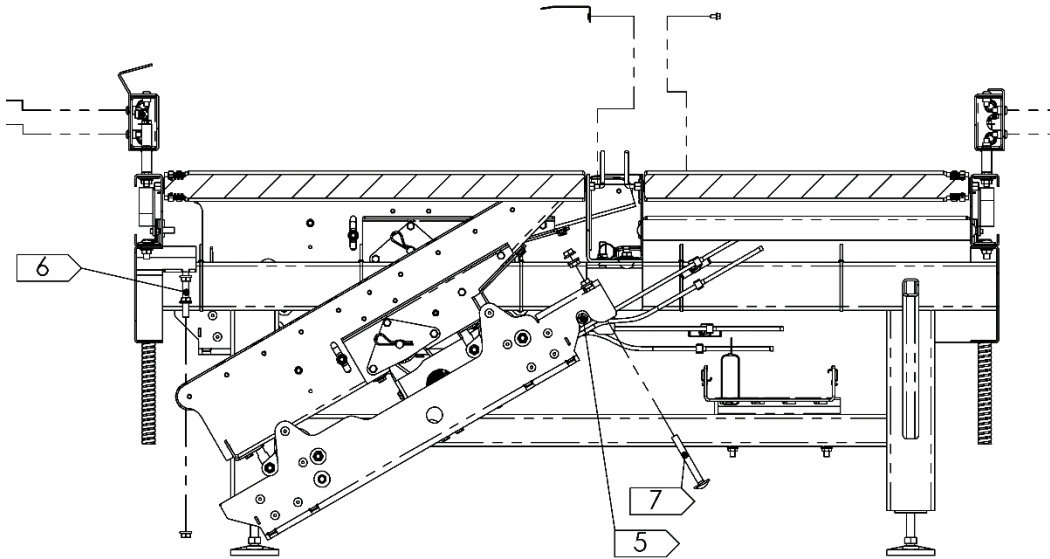
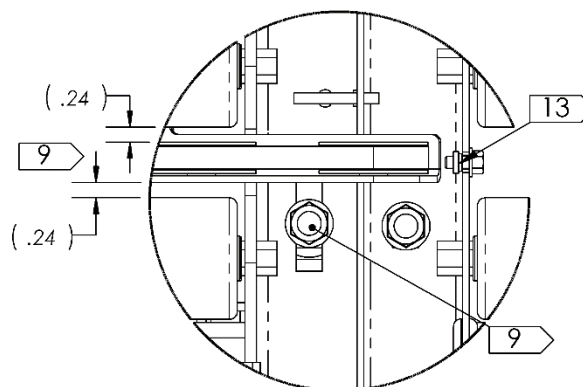
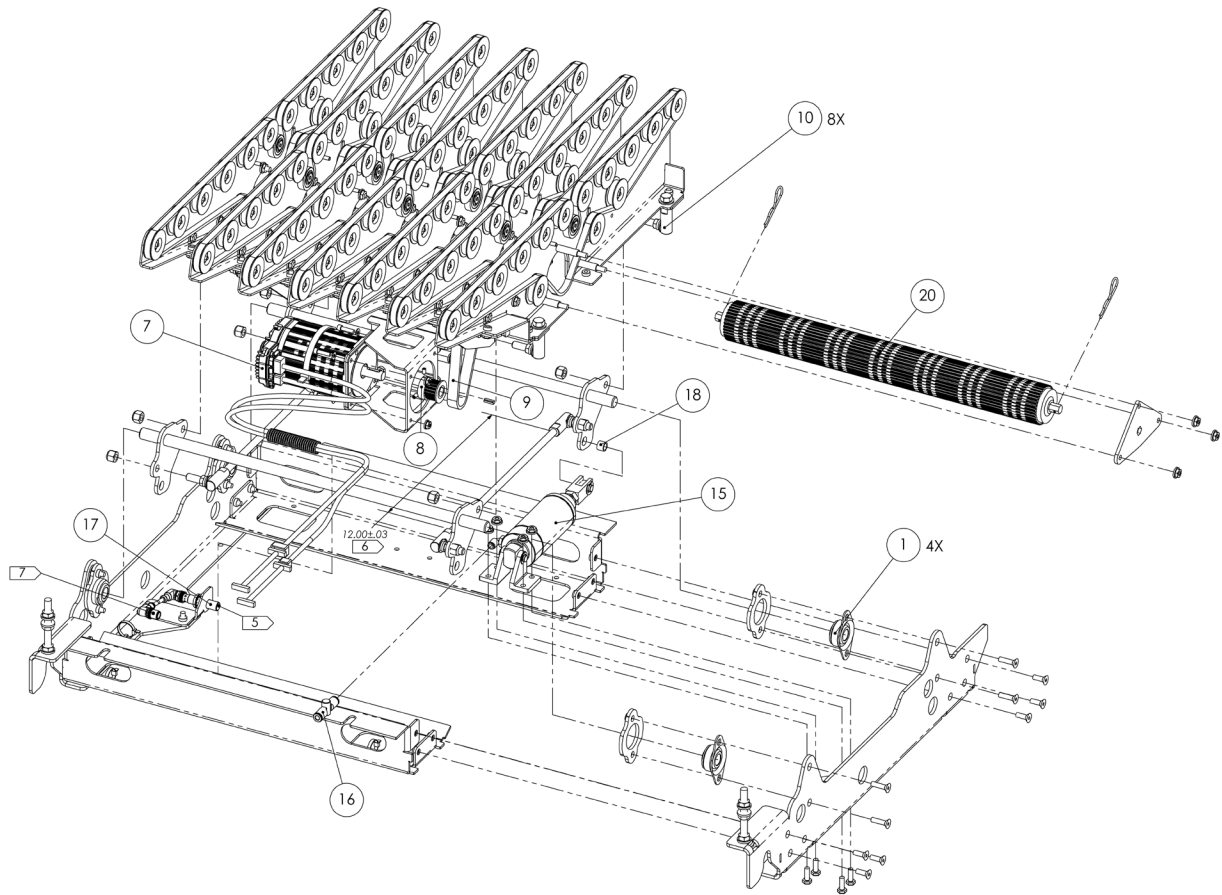

Figure 10-Removal of Pop-Up Transfer from GTPW Frame
Figure 12-Centering an Installed Pop-Up Transfer
Figure 13-Exploded View of Pop-Up Transfer
2. Disconnect cables and air lines from the pop-up transfer. There are (4) connections per pop-up: a 48V power cable (2x2 Molex Mini-Fit), an I/O cable (2x4 Molex Mini-Fit), a prox sensor cable (M12), and an air line (1/4" push fitting). All (4) connections are made in the cable tray directly opposite the pop up.
- a. The pins are indicated by flag note  in Figure 10.
5. Remove the (2) long carriage bolts holding the inboard side of the pop-up transfer in place. Access to these bolts is from the top of the conveying surface, underneath the center finger guard. As the bolts are loosened, the pop-up will drop onto the pivot pins.
- a. These carriage bolts are indicated by flag note  in Figure 10.
- b. Access to these bolts is also indicated by flag note  in Figure 12. Figure 10 is a top-down detail view; see Figure 23 in Appendix 1 for the full context of the detail view.
7. Remove the underside nuts on the (2) long square head bolts holding the outboard side of the pop-up in place. They are accessed from underneath the GTPW.
- a. These square head bolts are indicated by flag note  in Figure 10.
2. See Figure 13 for an exploded view of the pop-up unit. The motor is indicated by balloon (7). Also see Figure 19 through Figure 21 in Appendix 1 for general arrangement drawings.
4. Loosen the (4) 1/4"-20 bolts holding the motor mount to the transfer frame, and slide the motor up to relax the drive belt tension. The drive belt is indicated by balloon (9) in Figure 13.
5. Remove the (4) #10-32 SHCS holding the motor to the motor mount. Slide the motor out of the pop-up transfer.
6. Undo the (2) set screws holding the drive sprocket (balloon (8) in Figure 13) on the motor shaft.
8. Install the replacement motor onto the motor mount using the (4) #10-32 SHCS and wiz nuts.
9. Seat the drive belt into the grooves of the drive sprocket, then evenly pull the motor and motor mount down to tension the belt. Tighten the (4) 1/4"-20 bolts once correct tension is achieved.
3. Loosen the (4) 1/4"-20 bolts holding the motor mount to the transfer frame, and slide the motor up to relax the drive belt tension. The drive belt is indicated by balloon (9) in Figure 13.
4. Undo the (2) set screws holding the drive sprocket (balloon (8) in Figure 13) on the motor shaft.
3. See Figure 13 for an exploded view of the pop-up unit. The drive spline is indicated by balloon (20). Also see Figure 19 through Figure 21 in Appendix 1 for general arrangement drawings.
5. Loosen the (4) 1/4"-20 bolts holding the motor mount to the transfer frame, and slide the motor up to relax the drive belt tension. The drive belt is indicated by balloon (9) in Figure 13, and the motor is indicated by balloon (7) in Figure 13.
- a. See the exploded view in Figure 13 which shows how the triangular end plate should disassemble.
- b. The drive belt is indicated by balloon (9) in Figure 13.
8. Tensioner gauge should be placed as shown in Figure 12 or Figure 13 depending on routing.
9. If additional tensioner travel is needed, move the idler pulley indicated by flag note in Figure 12 and Figure 13, to the lower of the (2) indicated holes.
2. See Figure 13 for an exploded view of the pop-up unit. The air cylinder is indicated by balloon (15). Also see Figure 19 through Figure 21 in Appendix 1 for general arrangement drawings.
6. Remove the (4) 1/4”-20 bolts holding the cylinder trunnion brackets onto the frame of the pop-up.
8. Inspect the pivot bushing indicated by balloon (18) in Figure 13. If the bushing is worn, press it out of the pivot link plate and press in a new one.